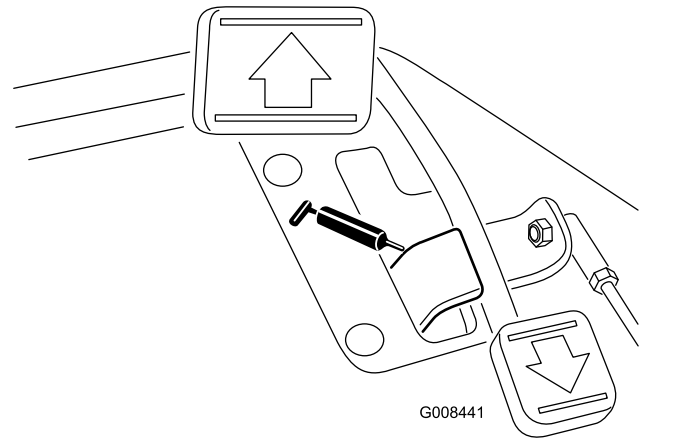

Figure 28
- Traction pedal pivot (1) (Figure 28)